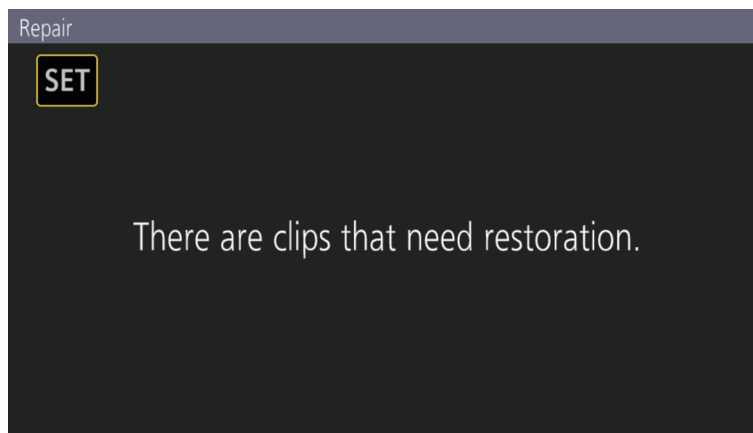

Fig. 1
**1 Select [SET] in the error message screen. (Fig. 1)**